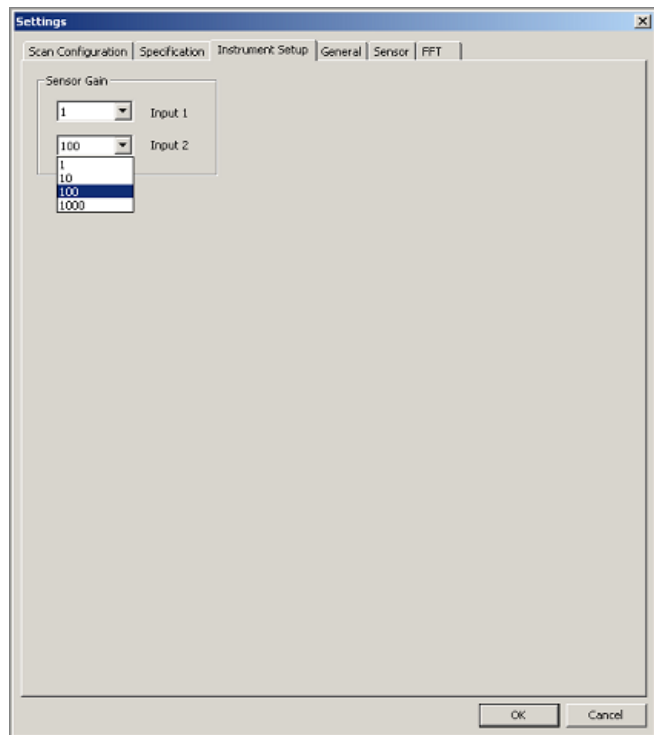

Figure 14c. Process of data acquisition.
(3) In the **Instrument Setup** sub-menu (**Figure 14c**), set the gain to be applied to the two input groups labelled Input 1 and Input 2 of the Spectramag-6 system.